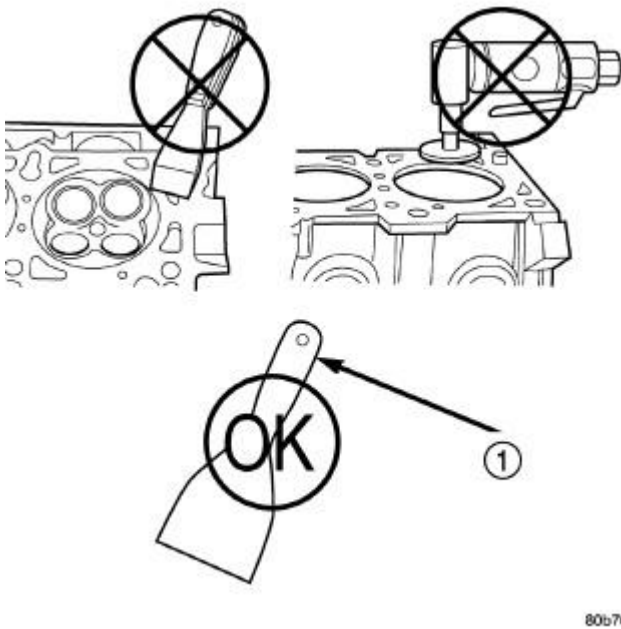

Fig. 27: Proper Tool Usage For Surface Preparation
1. Clean the cylinder head and cylinder block mating surfaces. Refer to **Fig. 27**.